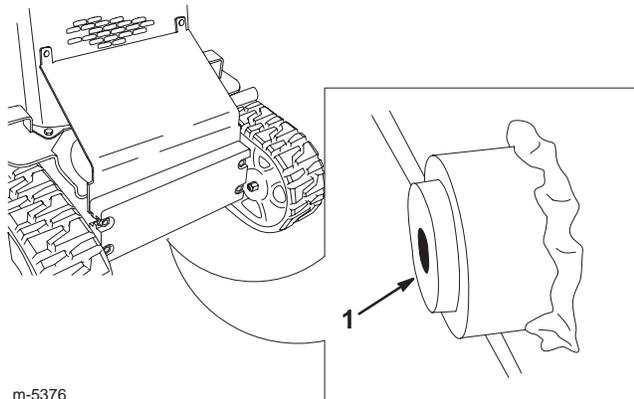

Figure 44
6. Place a large drain pan (capable of holding 15 gallons) under the drain plug on the front of the traction unit (Fig. 44).
7. Remove the drain plug and allow the oil to drain into the pan (Fig. 44).